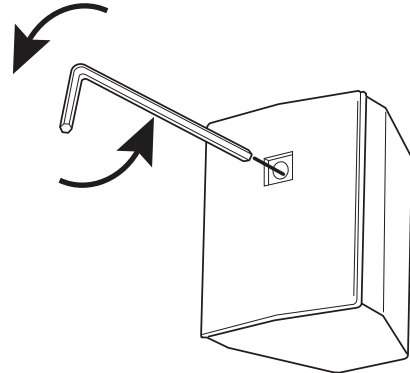

Fig. 4
4. Insert the supplied hex key into the hole exposed by the logo badge. Lightly push and slowly rotate the hex key until you feel the key fall into place. Loosen the InvisiBall clamp as shown in Fig. 4.